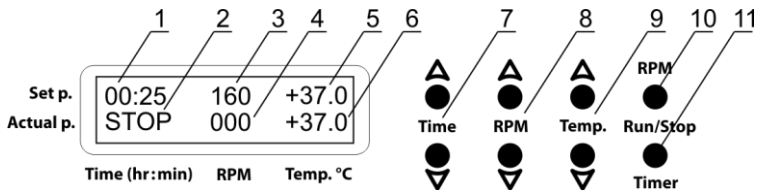

Figure 1. Control panel
- 5.2. The display turns on. The upper line shows the previously set time in hours and minutes (fig. 1/1), speed in RPM (fig. 1/3) and temperature in °C (fig. 1/5) and the lower line shows current readings of the same parameters: the timer (indication STOP, fig. 1/2), speed (fig. 1/4) and chamber temperature (fig. 1/6), that automatically starts rising according to the set temperature.
5.3.1. **Setting time (Time).** Using the ▲ and ▼ **Time** keys (fig. 1/7) set the required working time interval in hours and minutes (increment 1 min).
5.3.2. **Setting speed (RPM/Shaker).** Using the ▲ and ▼ **RPM** keys (fig. 1/8) set the required shaking intensity in revolutions per minute (increment 10 rpm).
5.3.3. **Setting temperature (Temp.°C).** Using the ▲ and ▼ **Temp.** keys (fig. 1/9) set the required temperature (increment 0.1°C). The chamber heating starts automatically.
The chamber heating can only be stopped manually by reducing the temperature with the ▼ **Temp.** key (fig. 1/9) until the OFF indication appears in the in upper line of the **Temp.°C** display segment.
5.4.2. Press the **RPM Run/Stop** key (fig. 1/10, called the **Shaker Run/Stop** key on **ES-20/60**). The platform starts rotating and the timer starts counting the time interval, with 1-minute precision.
5.5. **Finishing the program.** After the set time elapses, the platform motion stops and the display shows a flashing reading STOP (fig. 1/2) accompanied by a repetitive sound signal until the **RPM** or **Shaker Run/Stop** key is pressed.
5.6. If the working time is not set and the timer in the upper line (fig. 1/1) shows 00:00, pressing the **RPM** or **Shaker Run/Stop** key starts continuous operation of the unit. The **Time** segment of the display shows an OFF indication in the upper line (fig. 1/1) and a countdown timer in the lower line (fig. 1/2). Pressing the **RPM** or **Shaker Run/Stop** key stops the platform motion.
At the end of the set time, platform movement is stopped automatically, but heating can only be stopped manually by reducing the temperature with the ▼ **Temp.** key (fig. 1/9) until the OFF indication appears in the in upper line of the **Temp.°C** display segment.
5.7. The timer can be restarted during the unit operation if necessary. Press the **Timer Run/Stop** key twice (fig. 1/11), first time – to stop the timer, second – to restart it.